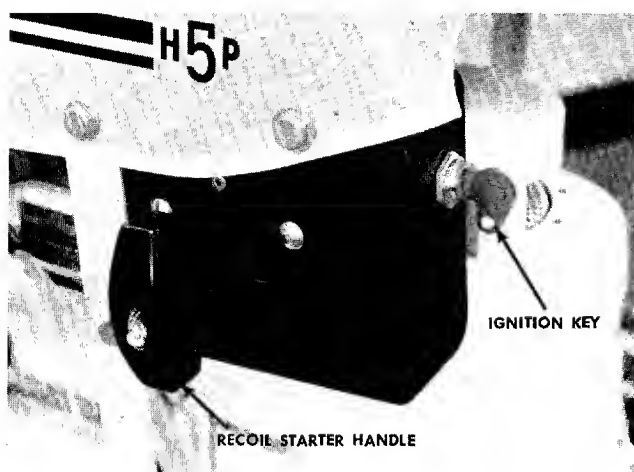

FIGURE 8. RECOIL STARTER HANDLE
- B. The Recoil Starter Handle is located on the left hand side of the hood. To operate the recoil starter handle, twist it until it is in the horizontal position and pull to start the engine. After the engine starts, return the Recoil Starter Handle to the mounting bracket and turn it to the vertical position as shown in figure 8.
- C. The Ignition Key must be turned to the right to the ON position before the Recoil Starter Handle is pulled to start the engine. Turn the Ignition Key to the left to the OFF position to stop the engine. See figures 8 and 9.